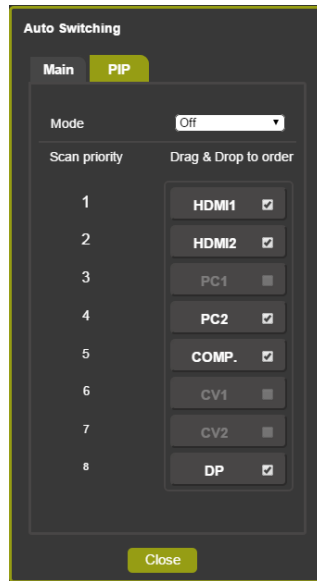
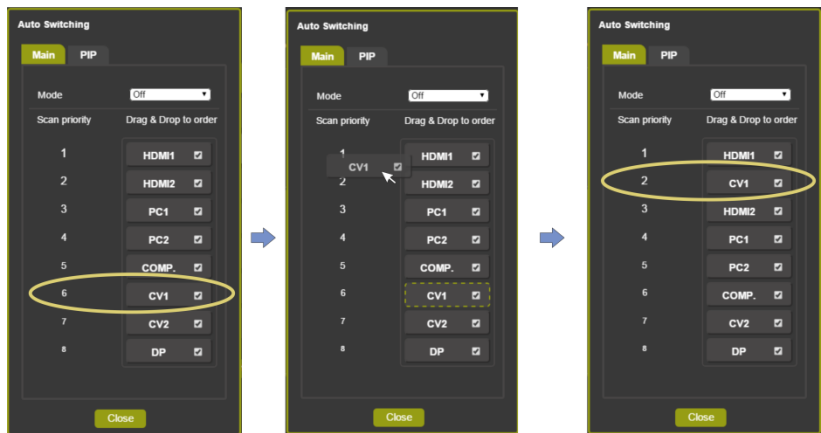

Figure 46: The Routing & Scaling Page – selecting the Inputs to Scan (PiP Tab)
Figure 47: The Routing & Scaling Page – Auto Switching Window
- **Scan** mode to scan through the inputs in search of a valid input signal. In the scan mode you can select which of the inputs will be included in the scan (see Figure 46) and also change the order of the scanned inputs (see Figure 47)
You can change the priority order as well by dragging an input button and dropping it in a new location, as illustrated in the example in Figure 47. In this example, CV1 is moved up in the priority list to be scanned for a valid input after HDMI 2.